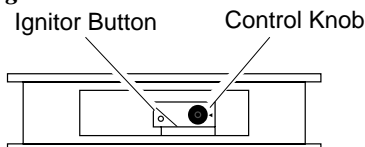

Figure 18 - Control Knob and Ignitor Button Location
4. Wait five (5) minutes to clear out any gas. Then smell for gas, including near the floor. If you smell gas, STOP! Follow "B" in the safety information, page 11, column 3. If you don't smell gas, go to the next step.
5. Turn control knob counterclockwise  to the PILOT position. Press in control knob for five (5) seconds (see Figure 18).